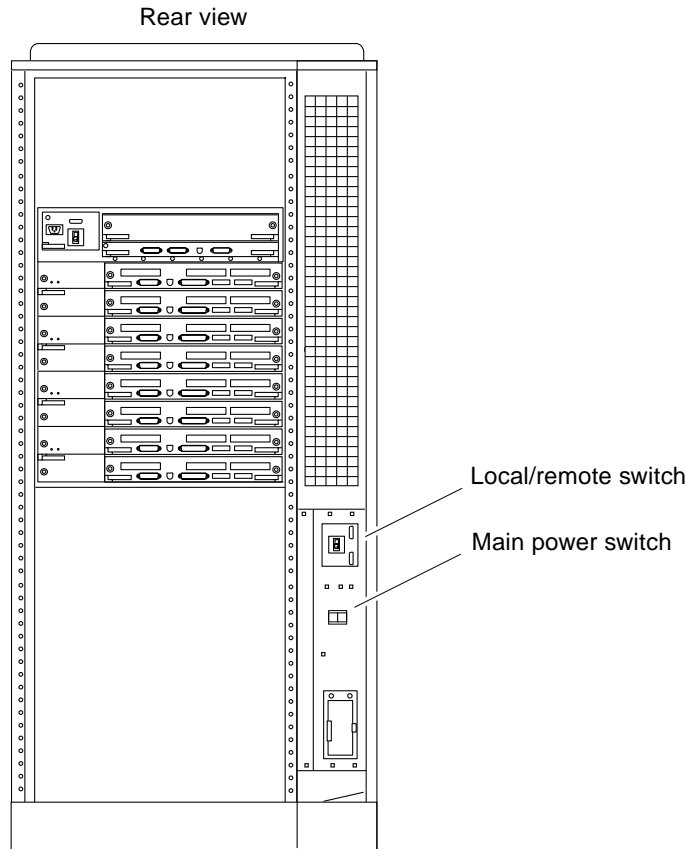
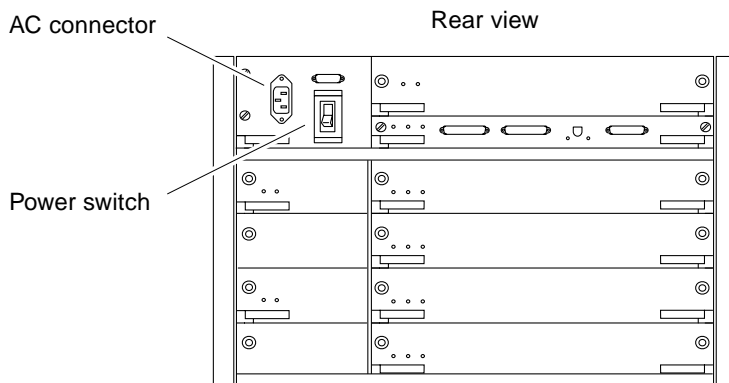

FIGURE 11-2 AC Power Switch (Enterprise 6500 and 5500)
FIGURE 11-4 AC Power Switch (Enterprise 4500)
7. **Turn the main power switch (FIGURE 11-2) to Off.**
- 6. Turn the AC power switch on the system rear off (FIGURE 11-4).**
2. **Enterprise 6500/5500 systems only: turn the Local/Remote switch down, to Local** (FIGURE 11-2).
3. **Turn on the AC main power switch** (FIGURE 11-2 or FIGURE 11-4).